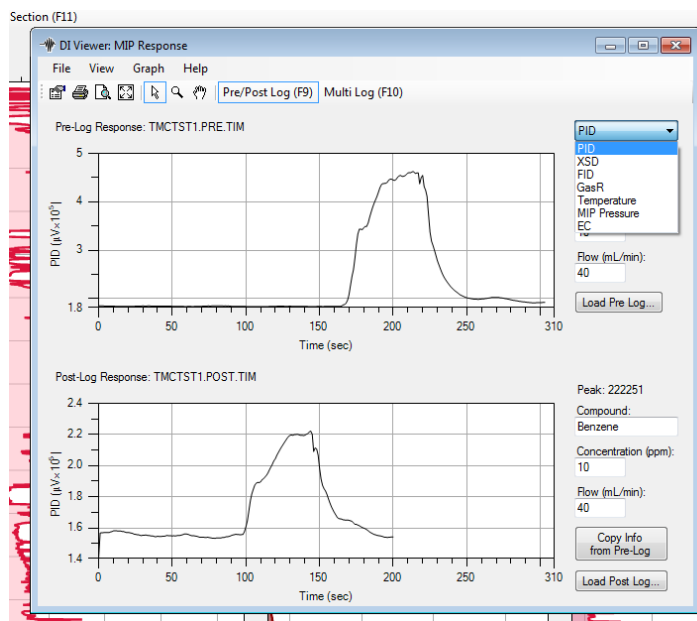

Figure 36: Selecting data series in MIP Response test file
5. To change the current data being viewed select the drop down tab in the upper right corner which shows the available data series (Figure 36). This will change both Pre and Post log graphs. The detectors are listed as they were assigned in the DI Acquisition software by the field operator.